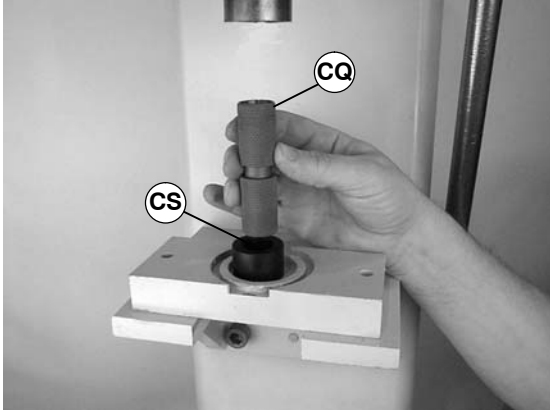

Figure 52
1. Orient bearing anvil/sleeve removal tool (part # 25-09†) (CS of Figure 52) with cavity facing up and place pulley (CQ) onto tool.